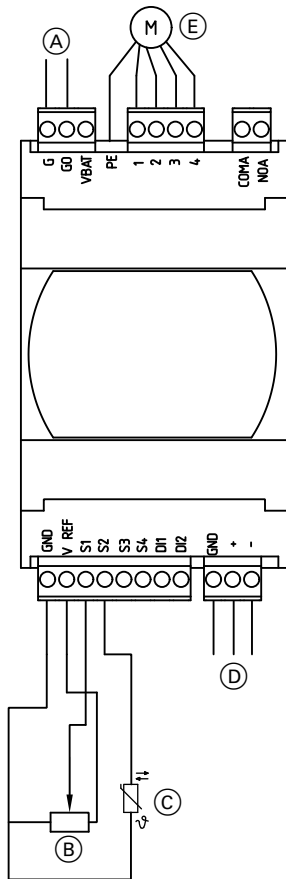

Fig. 81
| (K) Soft starter status input | (V) Type AWO 301.A60: Modbus connecting cable to the EEV PCB [6], connection (D) in Fig. 81 |